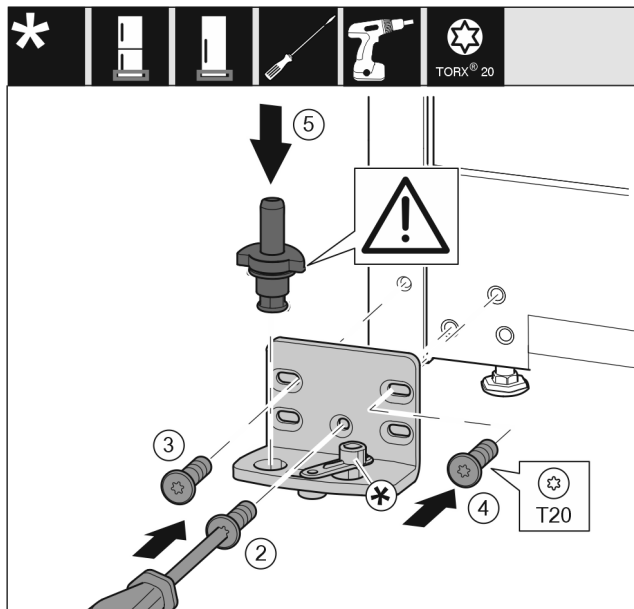

Fig. 21 *
- Place the swap bearing block on the other side and use a screwdriver to screw it on. Start with the screw Fig. 21 (2) at the bottom in the middle.*
- Tighten screw Fig. 21 (3) and screw Fig. 21 (4).*
- Insert the bearing bolt Fig. 21 (5) completely. Ensure that the latching cam is pointing towards the rear.*
- Place the swap bearing block on the other side and use a screwdriver to screw it on. Start with the screw (2) at the bottom in the middle.*
- Tighten screw (3) and screw (4).*
- Insert the bearing bolt (5) completely. Ensure that the latching cam is pointing towards the rear.*